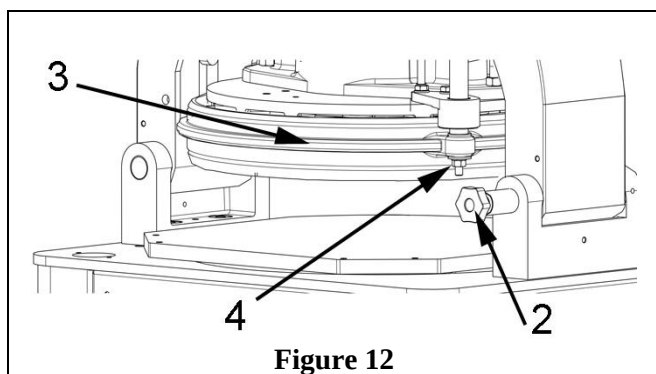
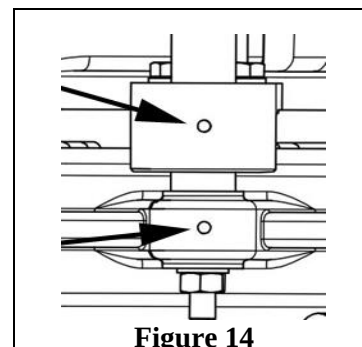

Figure 12
Figure 14
- 4) pull the head locking pin (Figure 12, pos.2) outwards;
- 5) remove the retaining ring (Figure 12, pos.3) by loosening the bolts (Figure 12, pos.4) and by turning it counter-clockwise and then lower it;
While securing the containment ring (Figure 12, pos.3), do not lock the bolt (Figure 12, pos.4) but keep it slightly detached. Once the operation is completed, check that the ring is free and not blocked (it must have a minimum backlash), for the correct operation of the machine.
To check that the containment ring is installed in the correct direction (Figure 12, pos.3), make sure that the two centre points on the ring and on its support (Figure 14) are parallel.